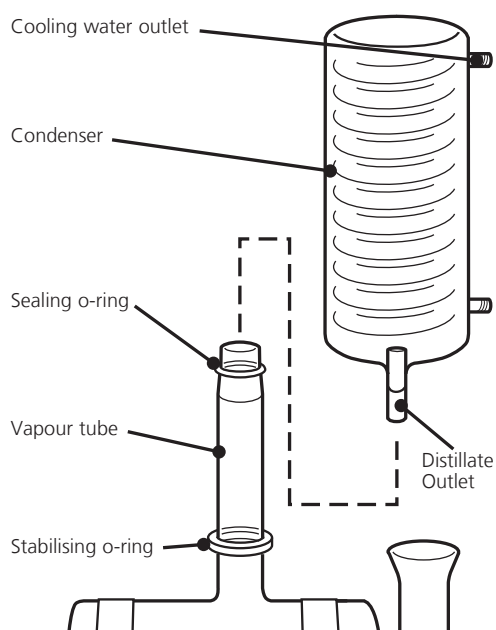

Fig. 2a
7. Ensure that the sealing O ring and the stabilising O ring are correctly positioned on the vapour tube of the rear boiler (Fig 2a).
8. Select 8mm tubing x 1m from hose kit I/WH48/3/B and connect one end to the distillate outlet connection (Bottom) of one of the condensers (Fig. 2a). Secure with a tie wrap.